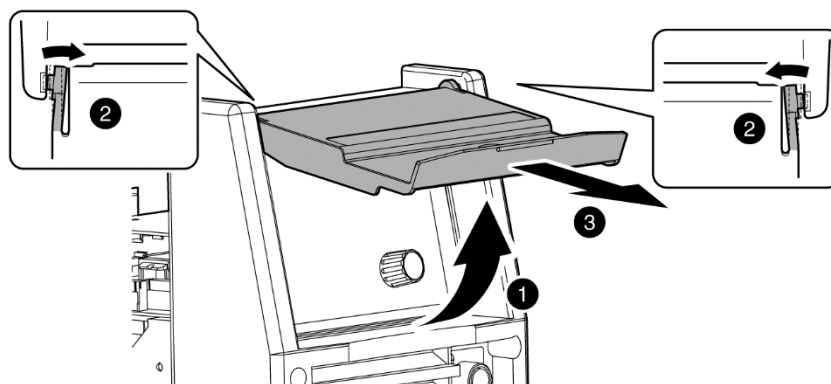

Figure 7-1 VRD ON/OFF Step A
A) Remove the clear plastic protection cover from the front panel (see Figure 7-1).